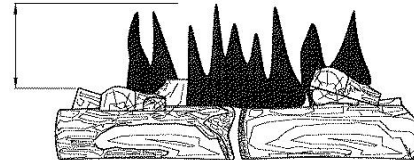

Figure 18 - Incorrect Flame Pattern with Control Knob Set to High (5)
- Figure 18 shows an incorrect burner flame pattern. If burner flame is incorrect: